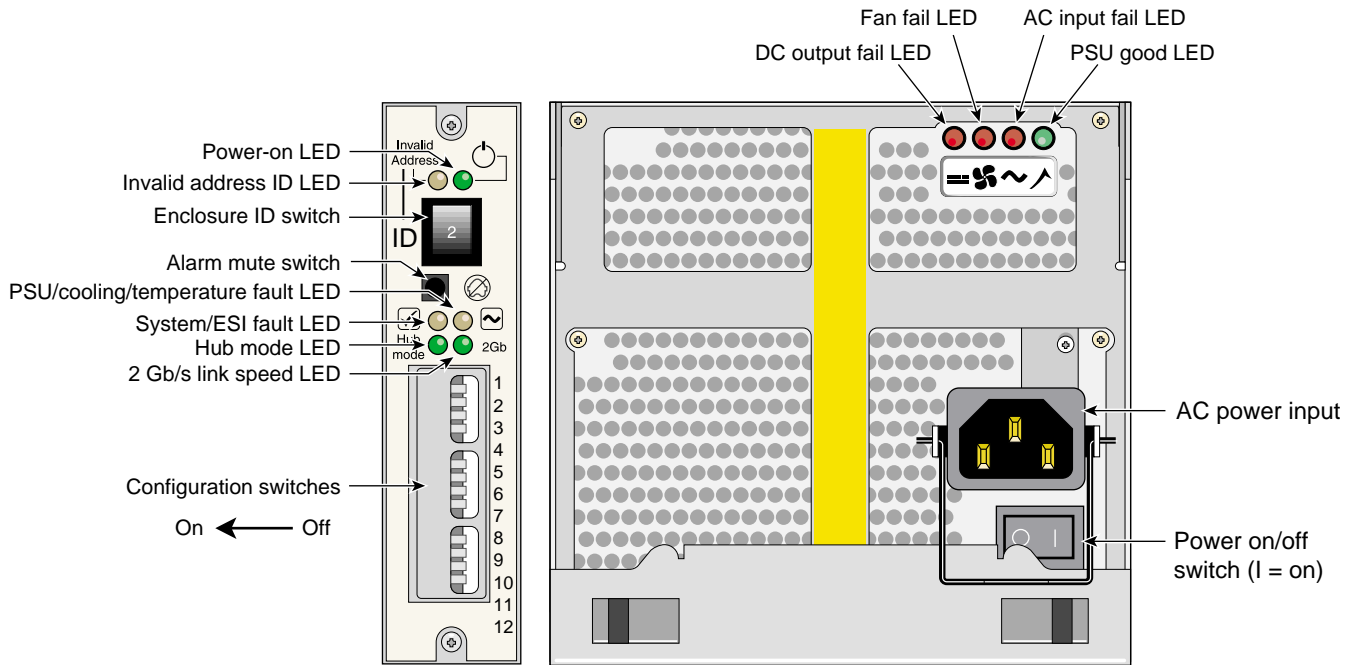

Figure 11-4 D-brick2 Operators Panel and Power Supply/Cooling Modules
Two power supply/cooling modules (PSUs) are mounted in the rear of the D-brick2. These modules supply redundant cooling and power to the enclosure and are auto-ranging. The supplies should be plugged into your SGI rack's power distribution strip (PDS). Four LEDs mounted on the rear panel of the D-brick2's PSU/cooling module indicate the status of the power supply and the fans (see Figure 11-4 on page 116).
Figure 11-4 identifies all controls and indicators on the ops panel. Note that the operator’s panel configuration switches slide left for “on” and right for “off.” For detailed descriptions of the LEDs and configuration switch information, see Chapter 5 in the *SGI Total Performance 9100 (2Gb TP9100) Storage System User’s Guide (P/N 007-4522-00x)*.
3. Turn the power switch on each PSU/cooling module to the “on” position (I = on, O = off). See Figure 11-4 on page 116 for switch locations.
The green “PSU good” LED illuminates. Also, the “power on” LED on the ESI/ops panel (see Figure 11-4 on page 116) of each module turns green when AC power is present.
1. Move the power switch on the rear of each PSU/cooling module to the “off” position (position **I** = on, **O** = off). See Figure 11-4 on page 116 for switch locations.